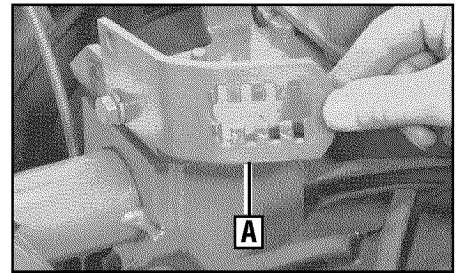
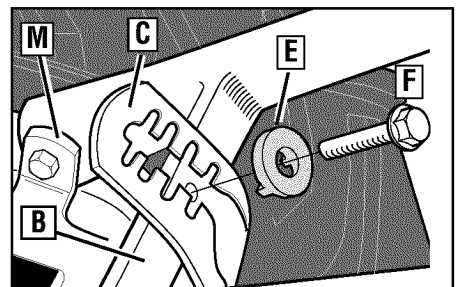
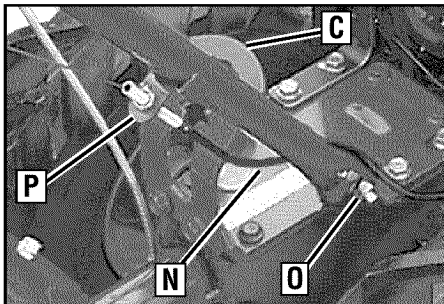

Figure 2-2: On electric start units, move height adjustment bracket (A, Figure 2-2),
Figure 2-3: Forward clutch control cable not shown for clarity.
Figure 2-4: Attach handlebars.
3. Gently lift handlebar (do not overstretch attached cable) and place handlebar cross-brace (B, Figure 2-3) in front of curved height adjustment bracket (C).
4. With the forward clutch cable (N, Figure 2-4) on the inside of handlebar, position the handlebar ends on the outside of the two mounting tabs (M, Figure 2-3) on the transmission top cover.
NOTE: The curved handlebar height adjustment bracket appears as shown in C, Figure 2-3 for non-electric start units. For electric start units, the bracket is loosened and moved to one side.
5. Loosely attach the handlebars to the mounting tabs with two 3/8-16 x 1" screws (heads of screws go to inside of tabs), 3/8" flat washers and 3/8"-16 lock nuts (O, Figure 2-4).
6. On electric start units, reattach the height adjustment bracket (A, Figure 2-2). Tighten both screws securely. Make sure the handlebar cross-brace (B, Figure 2-3) is under the bracket.
7. Move the handlebars up or down to align the threaded hole in the cross-brace with one of the four slots in the curved height adjustment bracket. Place the keyed washer (E, Figure 2-3) on the flange head height adjustment screw (F) with the raised keys (edges) of the washer facing down.
8. Thread the height adjustment screw (F, Figure 2-3) into the hole in the handlebar cross-brace, making sure that the raised keys on the washer fit into the slot on the height adjustment bracket. Tighten the height adjustment screw securely. Next, securely tighten the two screws and nuts in the ends of the handlebar (M, Figure 2-3).